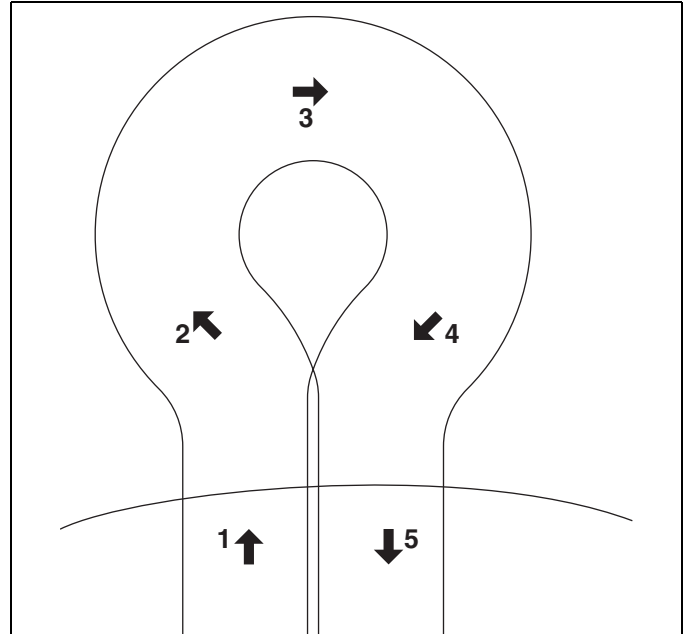

Figure 6F
- e. To turn to the right, start by turning mower slightly to the left (**2**). When the mower has moved approximately 1/2 its own width to the left, swing it around quickly to the right (**3 and 4**), guiding the mower with your right hand. This method makes it possible to turn around quickly with very few steps. [Figure 6F]